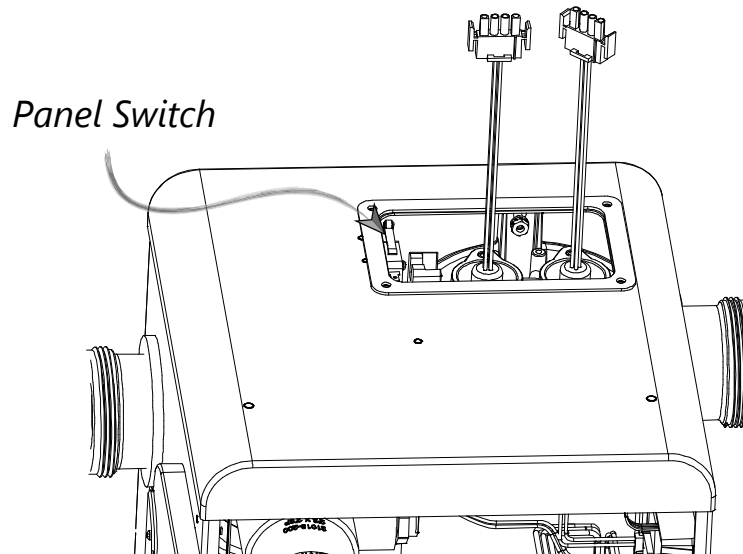

Figure 11: Panel Switch Protection for UV Lamps
The air entering the ozone modules passes through the air filter (refer to Figure 11) on each module inlet. The filter is held in place by the rubber filter cap.
2. Unplug the ozone module by tracing the ozone module power wiring back to the nearest connector and by unlatching hook tab on connector (refer to Fig 11).
4. Orient ozone gas line as shown in the angle view of Figure 11. Re-connect it on both ends and clamp tight.
3. Install new ozone air filter (P/N 9-0858-01) on ozone generator air barb as show in Figure 11.